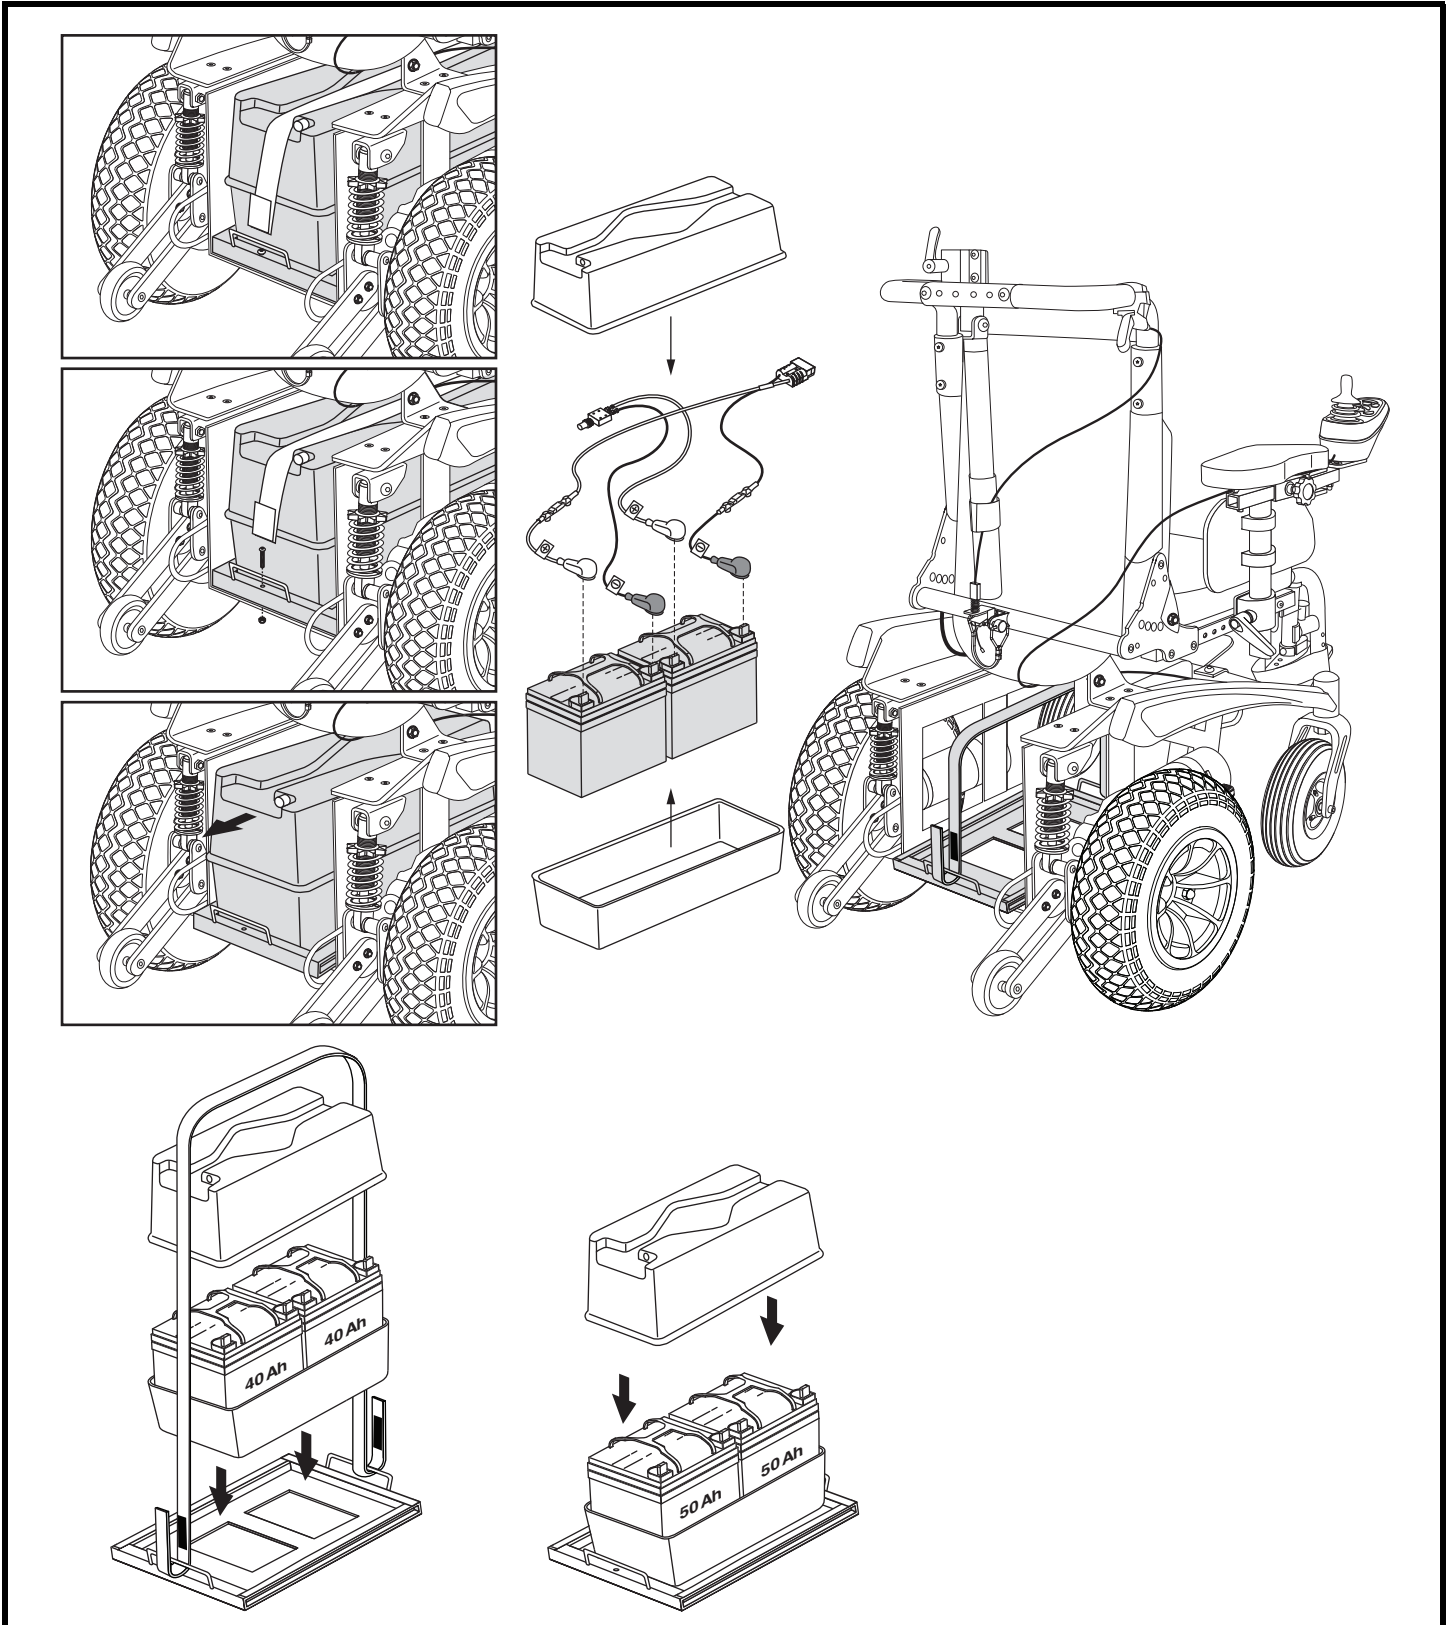

Figure 28. Battery Replacement
A battery wiring diagram is printed on a decal located on the battery door. See figure 28. Refer to the specifications table for correct battery specifications.
4. Slide the battery tray back. **See figure 28.**
8. Install the new batteries into the battery box. **See figure 28.**
11. Slide the battery tray back into place and reinstall the battery securement hardware. **See figure 28.**